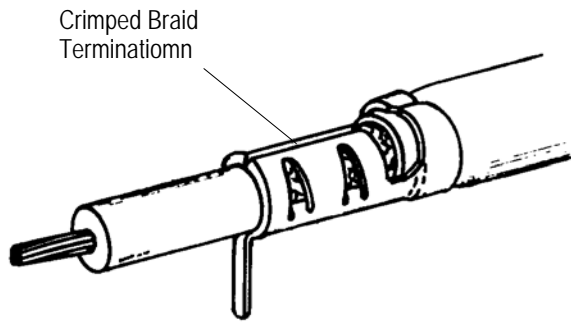

Figure 6
6. Bend the tab of the crimped terminal approximately 90° as shown in Figure 6.